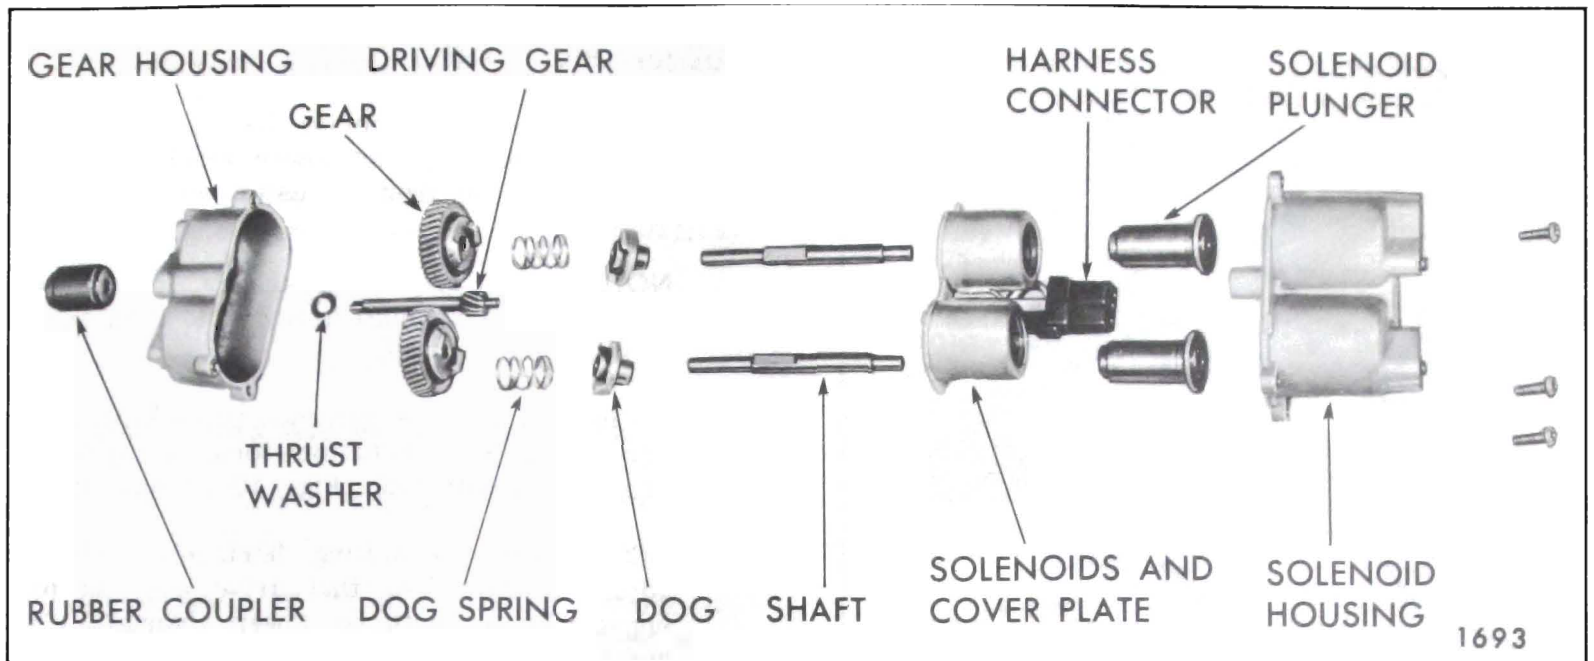

Fig. 10-15—Four-Way Seat Adjuster Transmission
- Remove screws securing gear and solenoid housings together; then, carefully separate housings and remove component parts of transmission assembly (Fig. 10-15).
2. Remove screws securing gear and solenoid housings together; then, carefully separate housings and remove component parts of transmission assembly (Fig. 10-15).